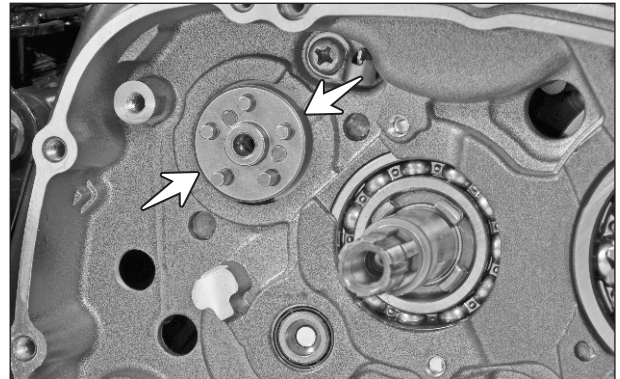

Fig. 3.117
- Take out the pin holder complete from the cam gear shift. (Fig. 3.117)